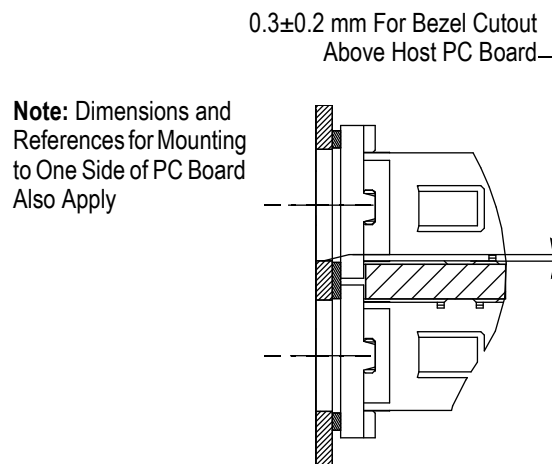

Figure 5
7. Mount the cage assembly (with the host pc board) onto the bezel. Make sure that the opening of the cage assembly is centered over the cutout of the bezel and that the front flange is against the EMI gasket. See Figure 5.
CAUTION To avoid interference with the insertion and extraction of the transceiver, IT IS IMPORTANT that the bezel and pc board be positioned in relation to each other according to Figure 5.